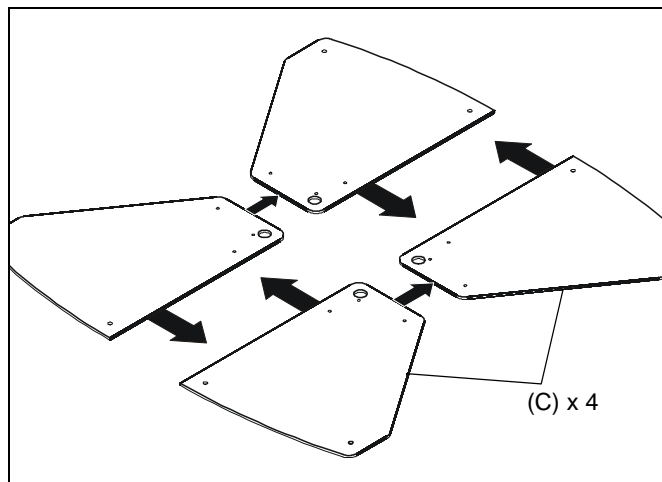

Figure 5
2. Gather four base pieces (C) as shown in Figure 5 and push them together until the edges meet.